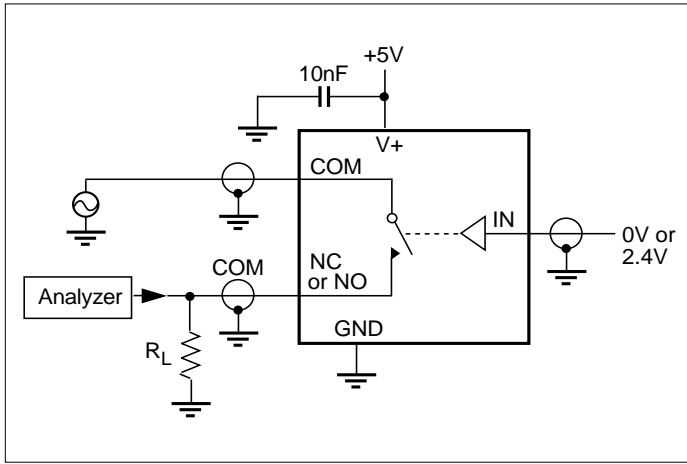

Figure 5. Off Isolation
- Off Isolation = 20log10 [VCOM / (VNC or VNO)]. See Figure 5.